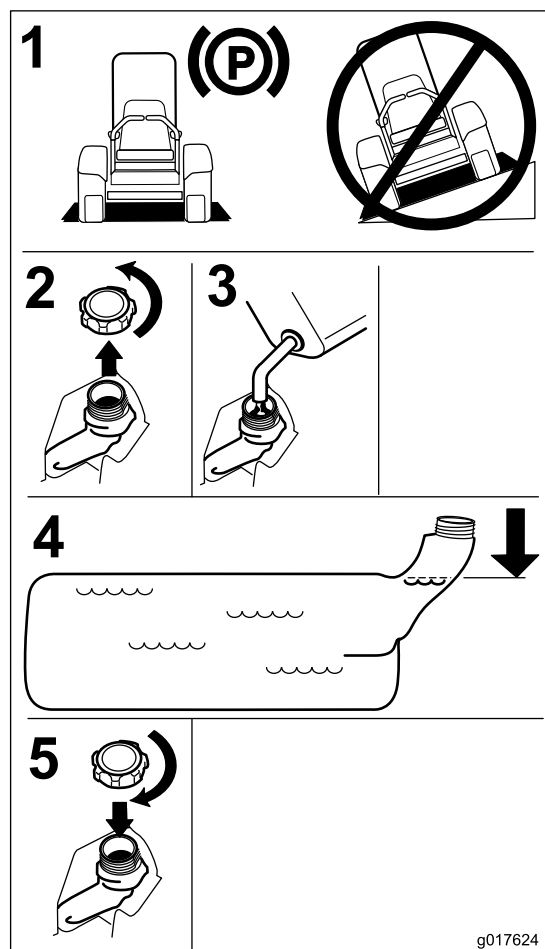

Figure 6
5. Ensure that there is empty space in the tank to allow the gasoline to expand (Figure 6).